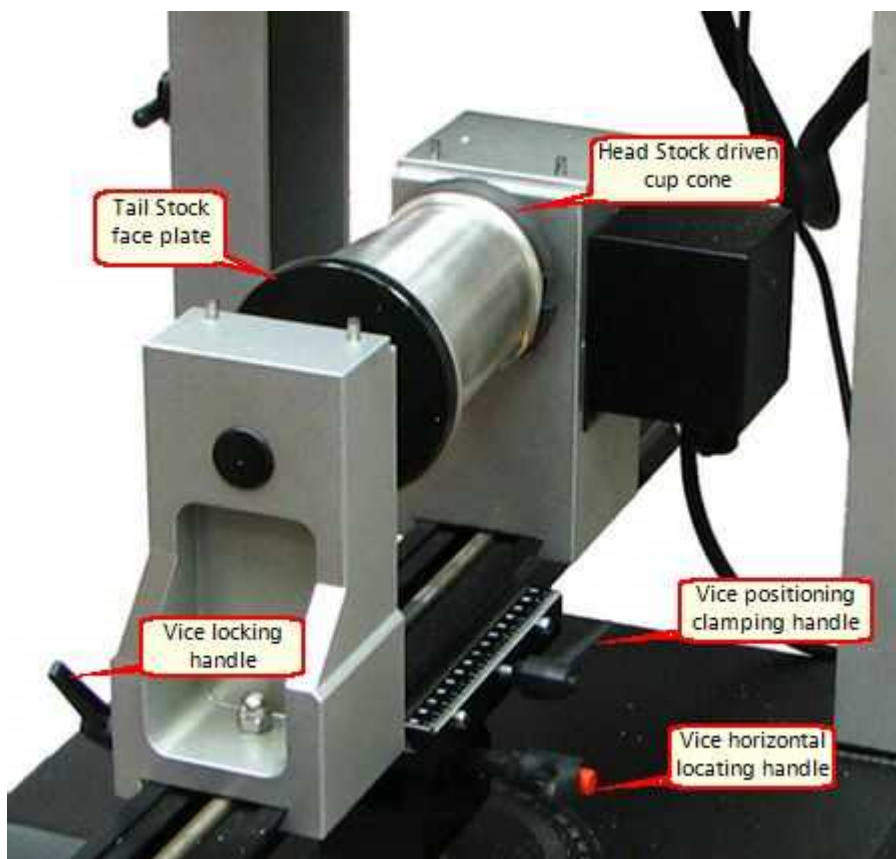

Figure 5
- 8 These should now be in the vice system, as shown in Figure 5. Insert the tankard into the vice, the vice should only be tightened enough so that the tankard does not slip around, when moved. Over tightening, can damage the tankard and in extreme circumstances the machine.